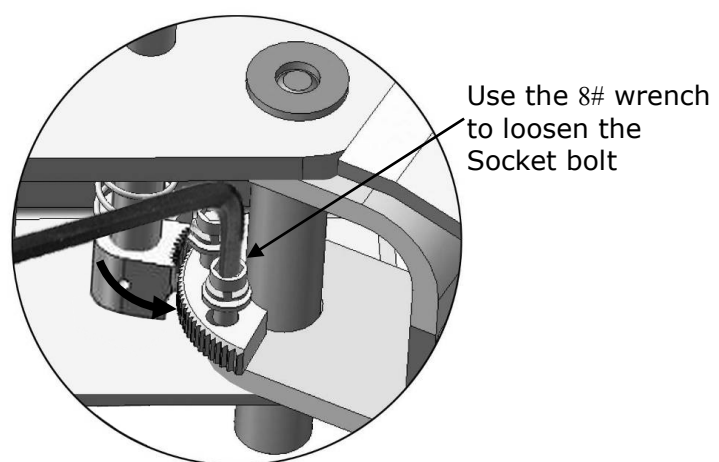

Fig. 24
2. Lowering the carriages down to the lowest position, then use the 8# wrench to loosen the nut of arm lock (See Fig. 24)